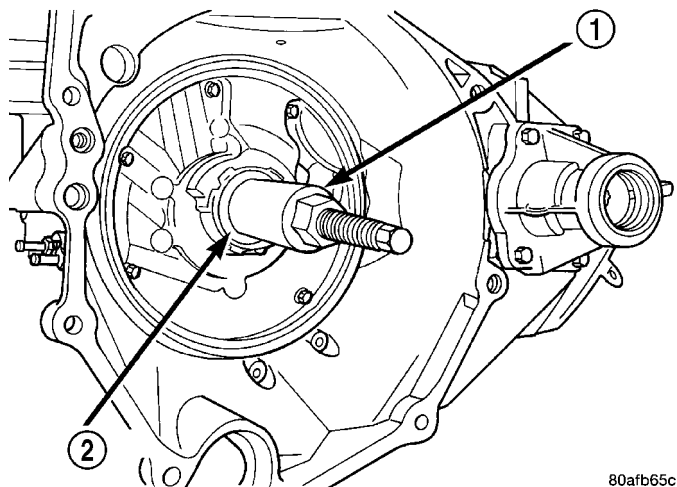

Fig. 265 Remove Oil Pump Seal
(1) Remove transaxle from vehicle (Refer to 21 - TRANSMISSION/TRANSAXLE/AUTOMATIC - 41TE - REMOVAL).
(2) Using Tool C-3981-B, remove oil pump seal (Fig. 265).